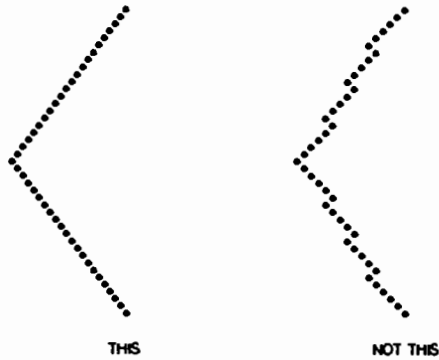

Figure 5-7. Herring Bone Pattern
The tractor alignment drive cables attach to a bracket on the rear of each paper tractor. The upper right and lower left tractors are stationary in relation to the cable. The upper left and lower right tractors have a set screw on the cable collar (see Figure 5-7). This set screw is used to adjust tractor positioning on the cable. Adjustment procedures follow:
6. Examine the test pattern (herring bone) and repeat step 3 until the diagonal lines are not wavy (see Figure 5-7).